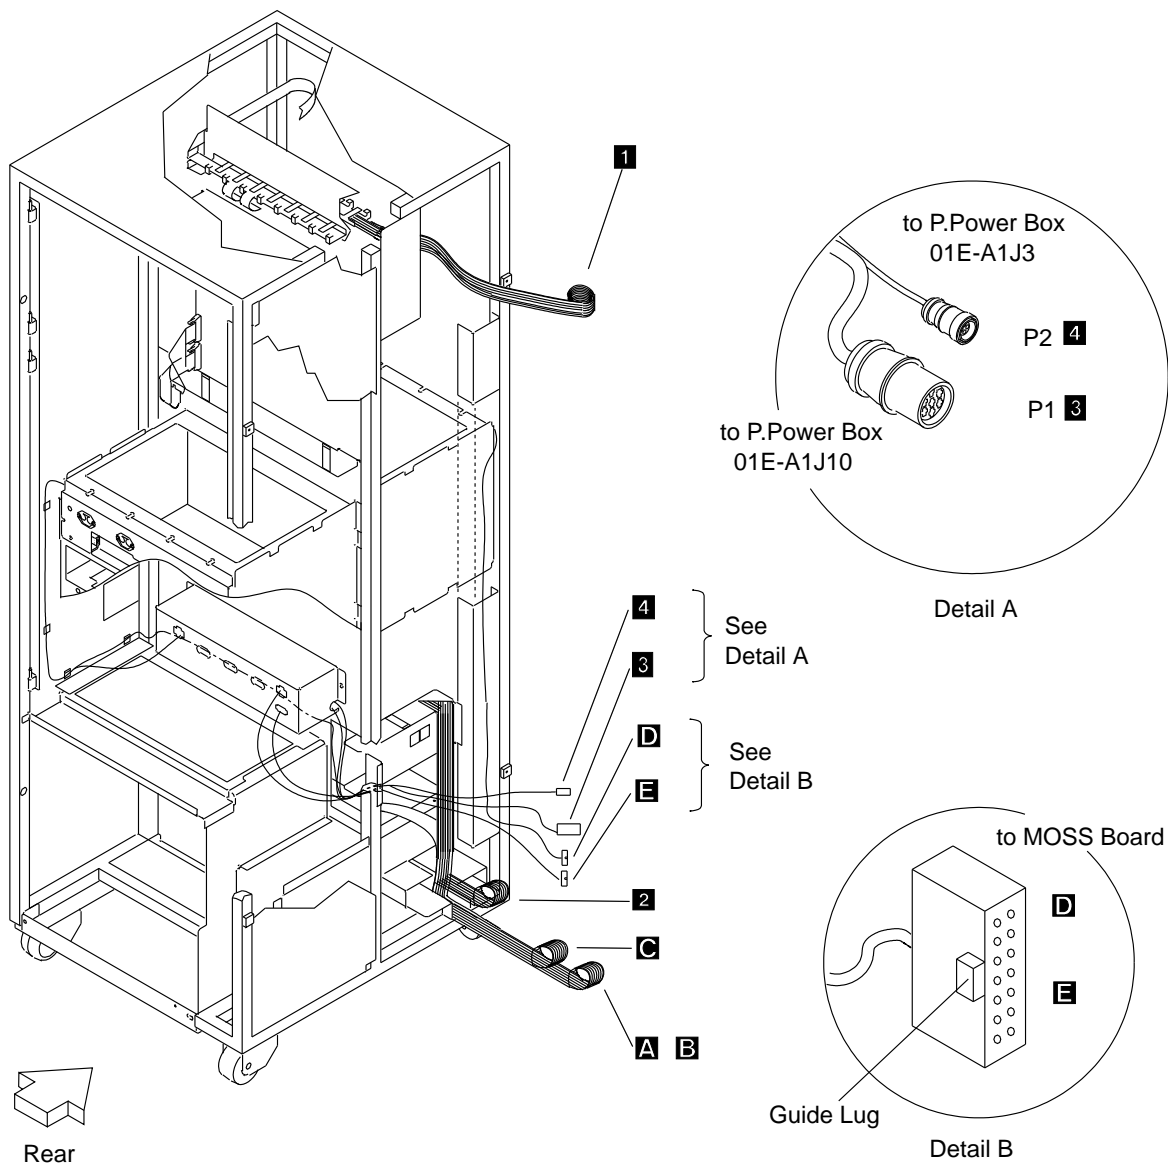

Figure 5-3. Cables from the 3746-A11 (Rear View)
- \_\_\_\_ See Figure 5-3 on page 5-5 and familiarize yourself with the table at the top of that page.
- Step 5. \_\_\_\_ At the top front left of the 3746-A11, locate the four flat IOC cables **1** (see Figure 5-3 on page 5-5). Cables **1** are labeled: 01G-A1X02, 01G-A1X03, 01G-A1X04, and 01G-A1X05.
- Step 5. \_\_\_\_ Referring to Figure 5-3 on page 5-5, in the 3746-A11 locate the four flat IOC cables **2** labeled: 01L A1X02, 01L A1X03, 01L A1X04, 01L A1X05.
- Step 3. \_\_\_\_ Referring to Figure 5-3 on page 5-5, in the 3746-A11 locate the two flat cables, **A** labeled 01A-Y0E1, and **B** labeled 01A-Y0E2.
- Step 1. \_\_\_\_ Referring to Figure 5-3 on page 5-5, locate the flat power control cable **C** labeled 01A-W0B5.
- Step 1. \_\_\_\_ Referring to Figure 5-3 on page 5-5, locate the AC **3** and DC **4** power cables at the auxiliary power box, and route them to the 3745 primary power box (see Figure 5-5 on page 5-8 for AC/DC cable path). Remove the plate P/N 03F7766 between the two halves of the base frame at the front center bottom.
- Step 1. \_\_\_\_ Referring to Figure 5-3 on page 5-5, locate cables **D** and **E** labeled 01A-W0C3 and 01A-W0A4.